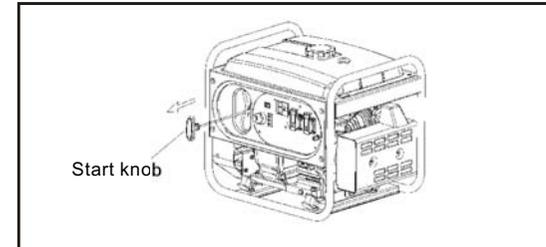

Fig.6
- (1) Unsnap the clips, remove the air cleaner cover.
- (2) Take out the element, blow the inside of the element with compressed air to remove the dust. If the element is very dirty, please replace it.
- (3) If the paper element is dirty, replace it with a new one. Do not clean the paper element.
- (4) Reinstall the air cleaner cover.
5. Pull the starter grip Recoil starter until resistance is felt, then pull the starter grip briskly toward the arrow as shown below. (See Fig.6)